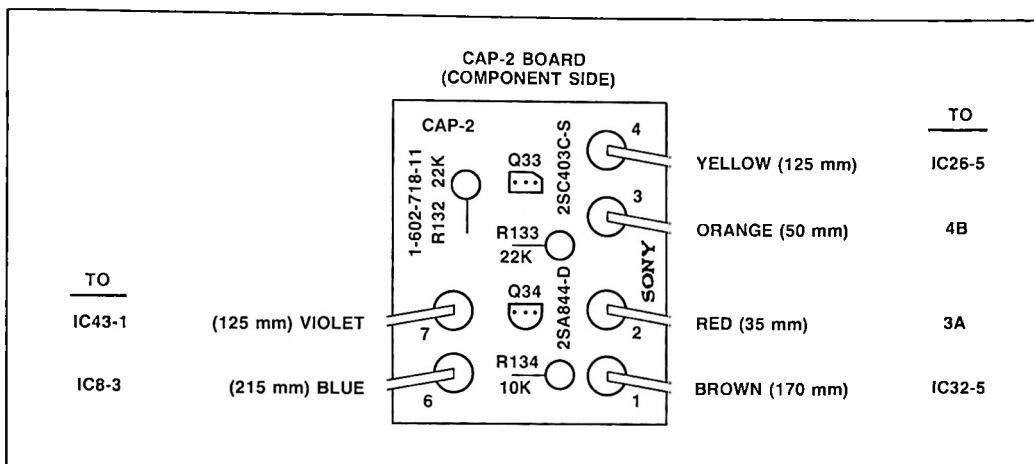

Figure 2
2. Connect jumper wires as indicated in Figure 2.